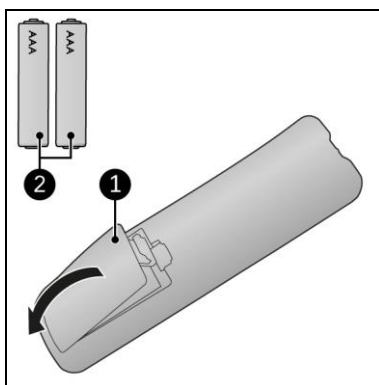

Figure 17
1. Remove the cover (Figure 17, pos. 1).
3. Insert two batteries (AAA 1.5 V) (Figure 17, pos. 2) as indicated in the battery compartment. Make sure to insert the batteries correctly.